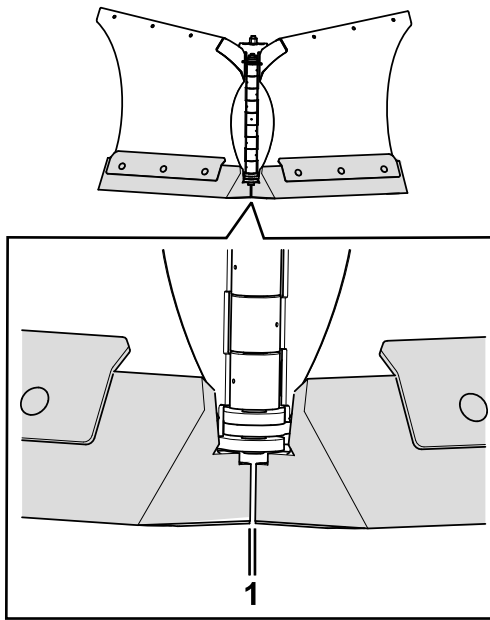

**Figure 2**
4. Secure the urethane cutting edges and straps to the blades using the carriage bolts, washers, and locknuts that are provided in the kit (Figure 2). Loosely tighten the hardware by hand.